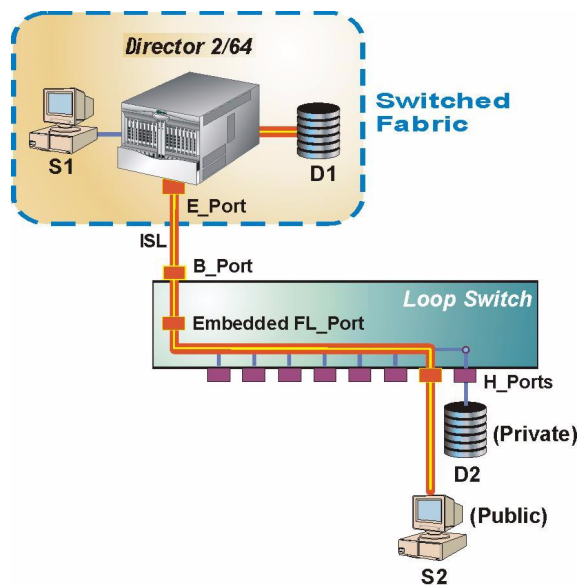

Figure 23: Public device connectivity
- **Public device** — A loop device that can transmit a fabric login (FLOGI) command to the switch, receive acknowledgement from the switch's login server, register with the switch's name server, and communicate with fabric-attached devices is a public device. Public devices communicate with fabric-attached devices through the switch's B_Port connection to a director. As shown in Figure 23, server **S₂** is a public loop device that can communicate with fabric-attached device **D₁**. The switch mode (shared or switched) does not affect device communication.